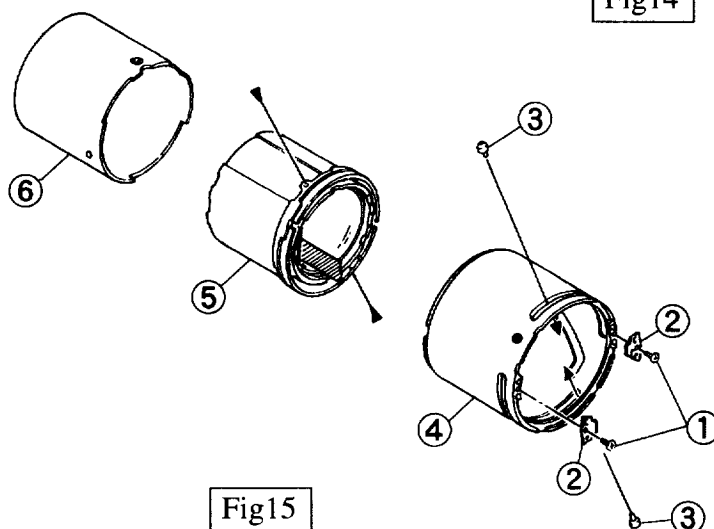

Fig15
(14) Take off two SCREWS (①) and remove two CAM DRIVE PLATE (②). (Fig. 15)
(15) Take off two GUIDE PIN (③). (Fig. 15) (Pressing)
(16) Remove the ZOOM CAM (④) then remove the BARRIER UNIT (⑥). (Fig. 15)